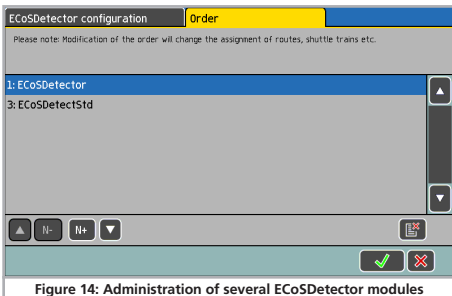

Figure 14: Administration of several ECoSDetector modules
- Press the tab “Administration” of any ECoSDetector in the configuration menu. A window similar to that in figure 14 will open.